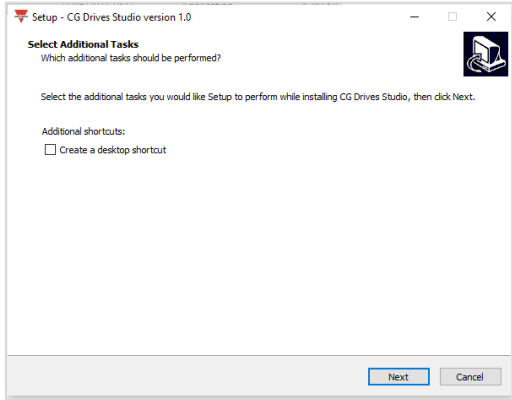

Figure 3: Software installation (1)
3. A new pop-up window will show up as shown in Figure 3